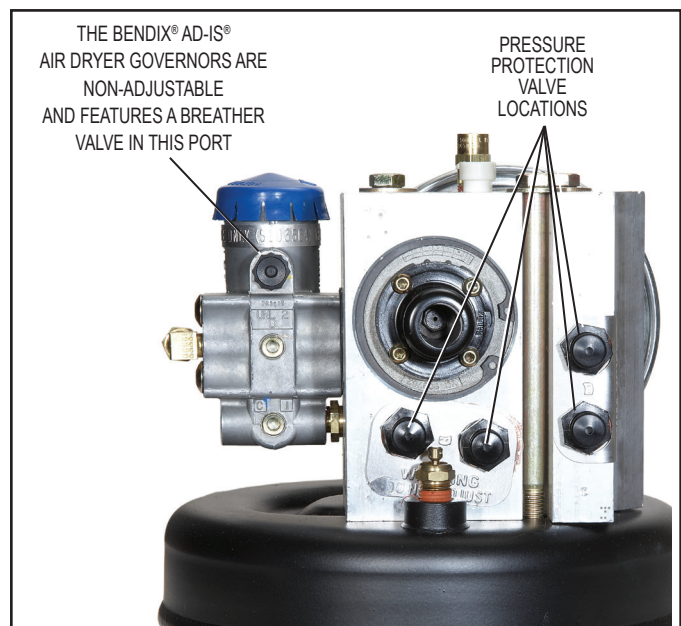

FIGURE 5 - PRESSURE PROTECTION VALVE LOCATIONS
**Note:** Kits are not available for the servicing of the pressure protection valves (See Figure 5). Do not attempt to adjust or service the pressure protection valves - these are not service items.